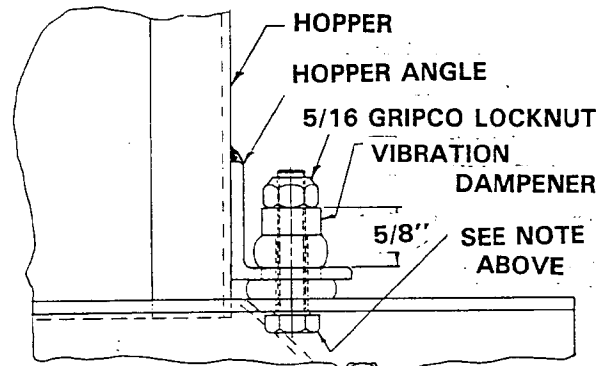

FIGURE 5
4. Continue to tighten the bolt until the distance from the top of the vibration dampener to the top surface of the hopper angle is 5/8" (see figure 5. DO NOT OVERTIGHTEN.